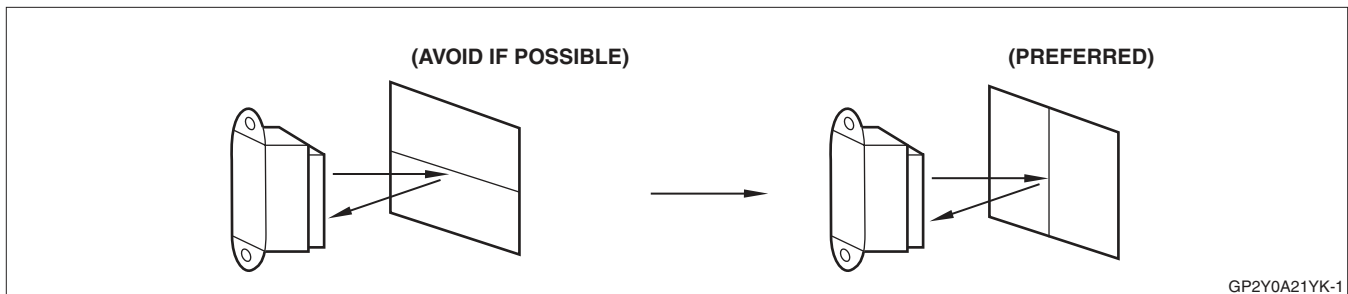

Figure 6. Proper Alignment to Surface Being Measured
- When measuring the distance to objects in motion, align the sensor so that the motion is in the horizontal direction instead of vertical. Figure 6 illustrates the preferred alignment.